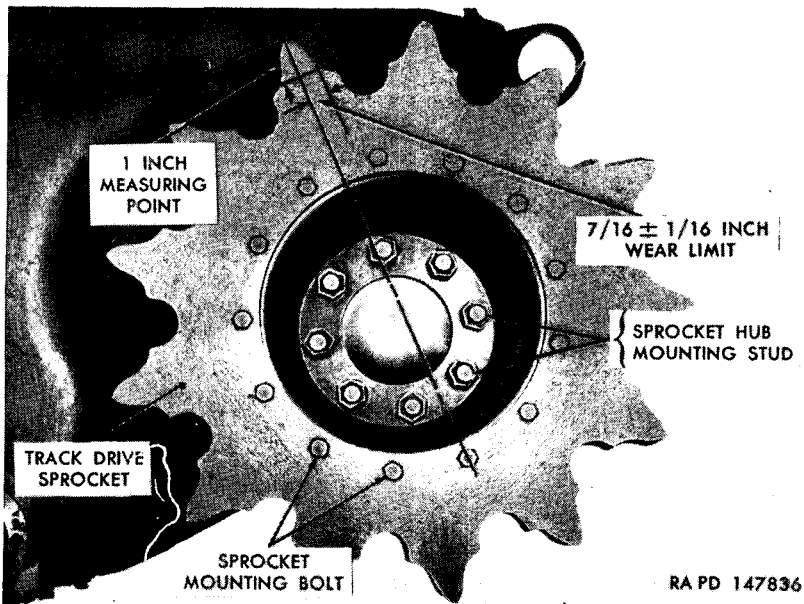
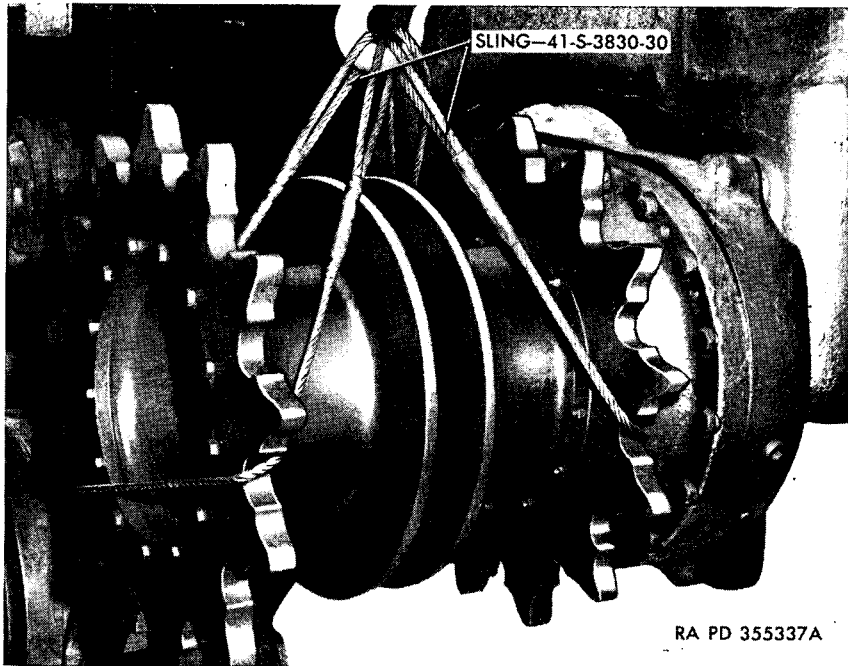

Figure 241. Track drive sprocket wear limit.
Figure 242. Removing track drive sprockets and hub.
a. **REMOVAL.** Remove rear dust shield and fender (par. 266*b*). Disconnect track (par. 249*b*), and move it clear of the sprockets. Attach a rope sling to the outer sprocket. Remove 13 bolts and nuts, and remove outer track drive sprocket (fig. 241). To remove the inner drive sprocket remove the sprocket hub (par. 245). Stand the sprocket hub on end with the inner sprocket up. Remove 13 bolts and nuts, and remove inner sprocket.
- (1) *Cleaning.* Clean both drive sprockets thoroughly with volatile mineral spirits or dry-cleaning solvent. If available, steam may be used to remove remaining accumulations of grease and dirt. Rinse sprockets in volatile mineral spirits or dry-cleaning solvent and blow dry with compressed air.
- (2) *Inspection* (fig. 241). Inspect drive sprocket for warpage, cracks, or damaged teeth. If any of these conditions are found, replace sprocket. Check sprocket teeth for excessive wear. Wear will occur on the face of each tooth in the driving direction. When one face of the tooth is excessively worn, the sprocket will be reversed on the hub at time of assembly (*c* below) so that the wear will occur on the opposite face of the tooth. An easy method of measuring to determine the extent of wear is to locate the center line of the tooth by drawing a line through a point halfway between two mounting bolt holes and the center of the opposite mounting bolt hole as shown in figure 241. Since the maximum wear occurs at the pitch diameter of the tooth, determine this point by measuring one inch down on the center line from the top of the tooth. Measure the distance from the center line to each face of the tooth at the pitch diameter. When sprocket is new this dimension will be eleven-sixteenths
a. **REMOVAL.** Remove rear dust shield and fender (par. 266*b*). Disconnect track (par. 249*a*), and pull clear of sprockets. Install sling 41-S-3830-30 (fig. 242), and adjust so that sling will hold the weight of the sprockets and hub. Remove the eight safety nuts from sprocket hub mounting studs (fig. 241). Remove the sprocket hub.
b. **INSTALLATION.** Using sling 41-S-3830-30, lift sprocket hub onto sprocket hub mounting studs and secure with eight safety nuts (fig. 241). Remove lifting sling. Connect track. Install rear fender and dust shield (par. 266*c*).